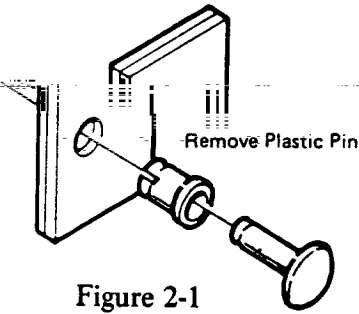

Figure 2-1
4. Remove all the plastic pins that are fastened to the rear panel terminal board, as shown in Figure 2-1.